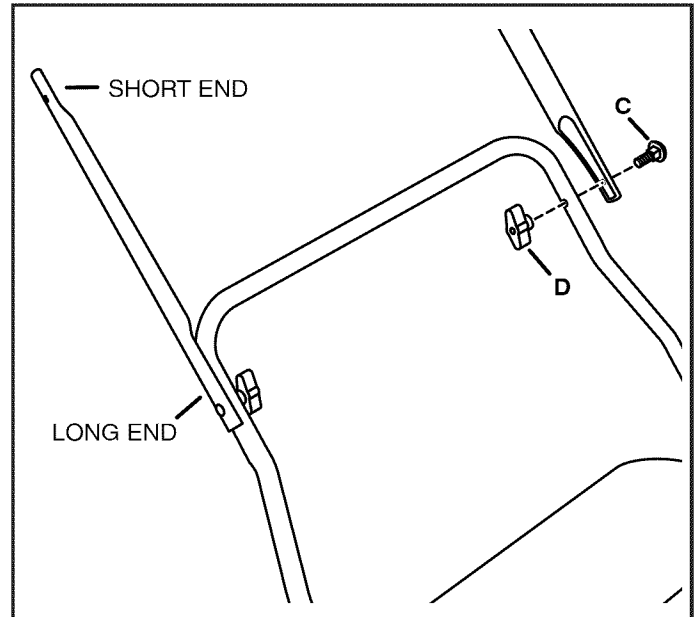

FIGURE 3
STEP 3: (SEE FIGURE 3)
- Turn the Power Rake housing upright and attach the long end of each of the middle handle tubes to the lower handle tube using two carriage bolts (C) and wing knobs (D).